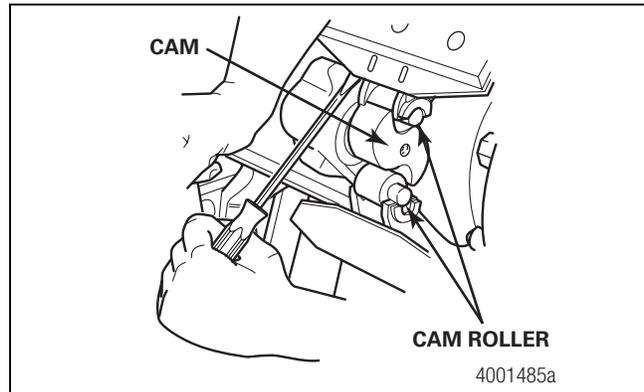

Figure 5.28
6. Place a pry bar between the shoe and the cam. Lift up the shoe. Install the shoe rollers onto the camshaft end of the shoes. The rollers must touch the ends of the shoes and camshaft. Figure 5.28.